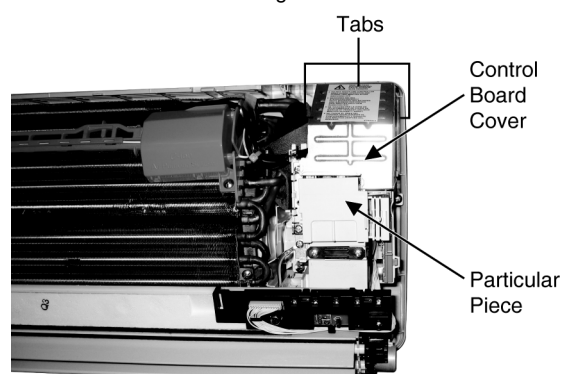

Fig. 2
- Unhook the tabs at the Control Board to remove the Control Board Cover. (Fig. 2)
- Release the Particular Piece. (Fig. 2)